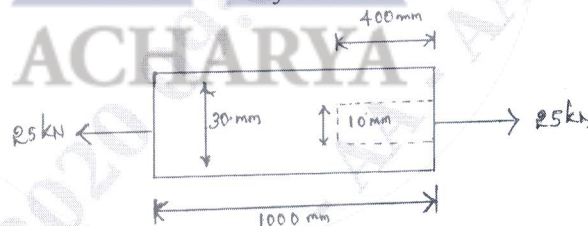

Fig.Q.2(b)
- b. A bar of length 1000mm and diameter 30mm is centrally boxed for 400mm, the bore diameter being 10mm as shown in Fig.Q.2(b). Under a load of 25kN, if the extension of bar is 0.185mm, what is the modulus of elasticity of the bar? (10 Marks)